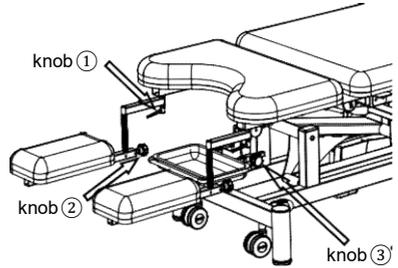

Figure 8
- Horizontally swing the knob ① on both side of the table frame to lock the footrest.
- Rotate the knob ② on both side of the footrest to adjust the height of footrest pad.
- Insert the debris tray connector into the square tube and tighten the knob ③.
- This debris tray should be placed at a desired expansion length by control the knob ③.
- Disassembly: Loosen the knob ③ and remove the debris tray. (Figure 8)